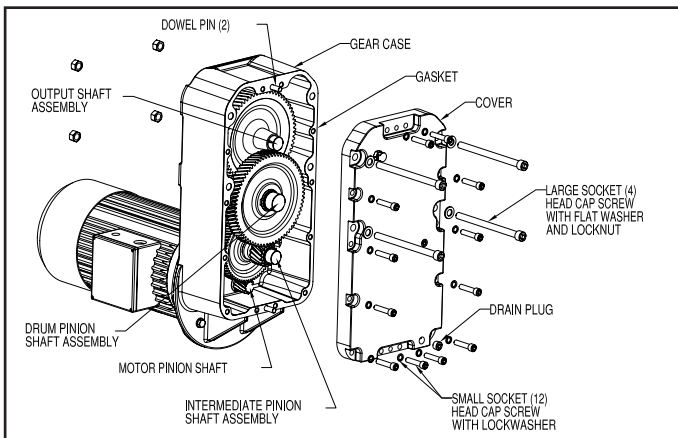

**Figure 5-6. Drum Frame & Geared Limit Switch ("B" & "C" Frame Shown)**
- b) Remove the geared limit switch or disconnect the wires so that the electrical cable will not inhibit removal of the drum. (see Figure 5-6).
- c) Remove the hoist from the beam, place it on the ground and provide adequate means to support the drum before removing the frame rod cap screw(s) and stiffener plate hardware ("B" & "C" Frame only) at the outboard end drum frame (see Figure 5-6).